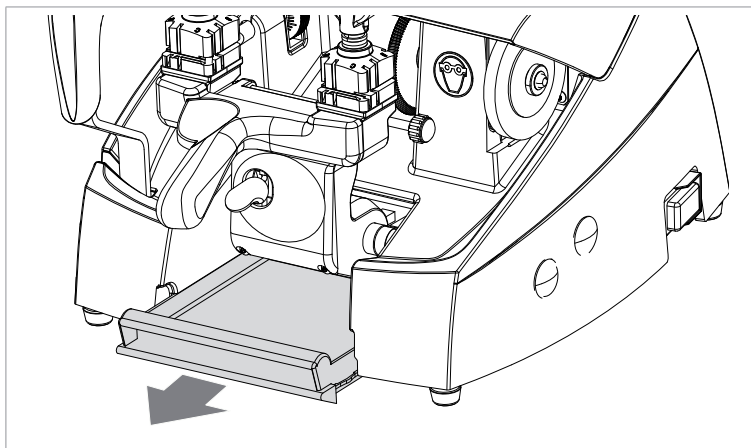

Fig. 36
- 2) Remove the double box (tool holder/swarf tray) (Fig. 36).